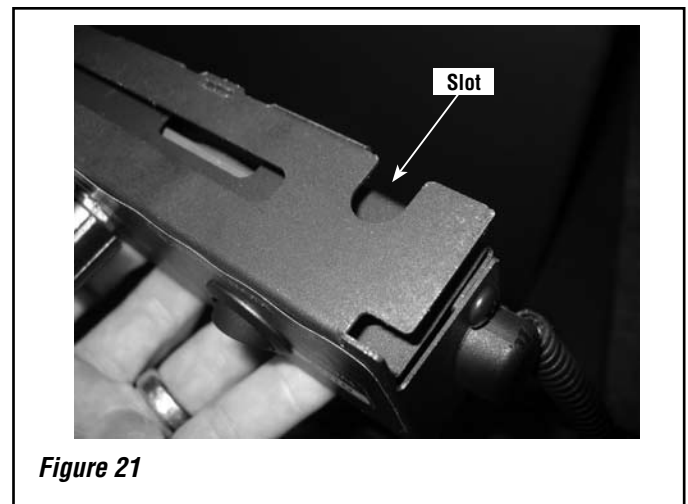

Figure 21
Step 7. Locate front slot on the control box as shown in **Figure 21**.